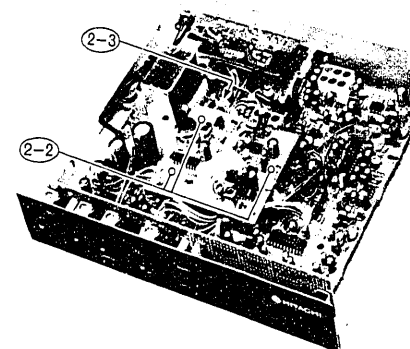

Fig. 2
2. IF Demodulator Circuit Board Removal (Fig. 2)
- 2) Remove IF Demodulator Circuit Board (Fig. 2)
- 3) Remove IF Demodulator Circuit Board. (Fig. 2)